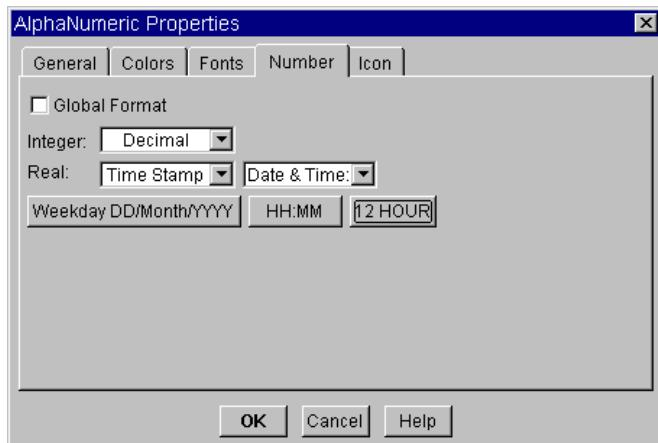

Figure 5-10. The AlphaNumeric Properties Box
8. Click HH:MM:SS to toggle to HH:MM. Click 24 HOUR to toggle to 12 HOUR. See Figure 5-10.